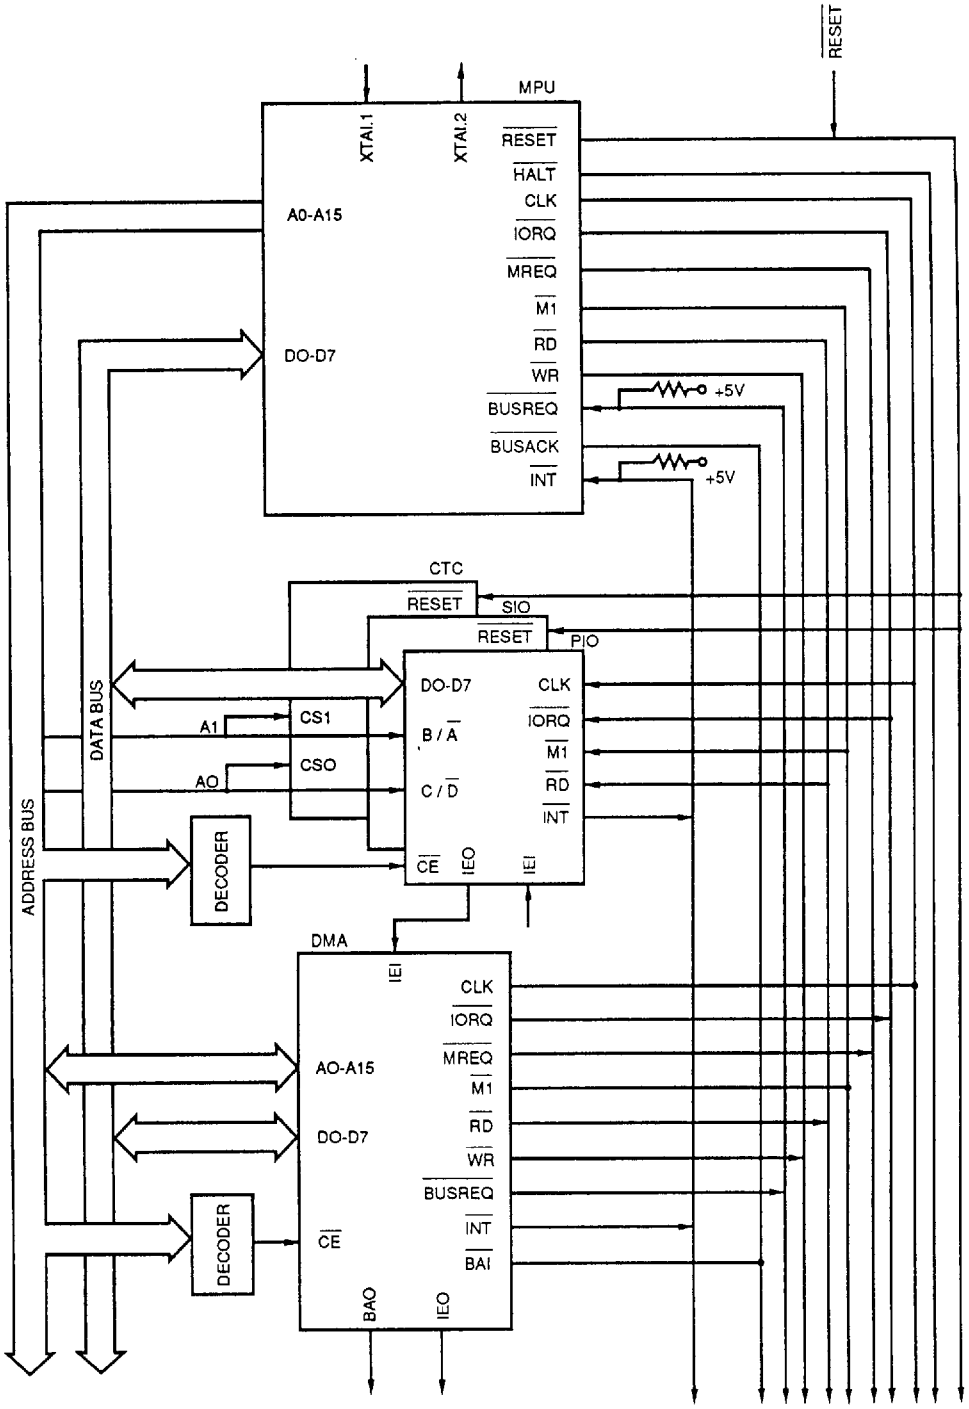

Figure 15 Example of Z80 Family Peripheral LSI
**Method of Use.** An example of the Z84C01 with the Z80 family peripheral LSI's is shown in Fig. 15.